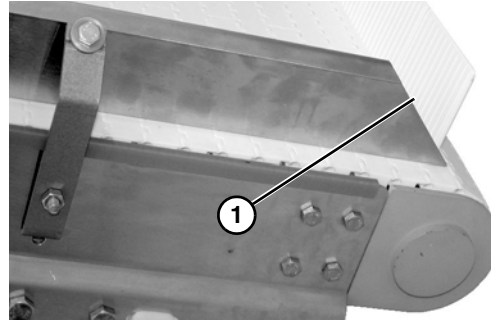

Figure 28
*When installing guides, be sure that the angled end of guide is installed on the idler end of conveyor (**Figure 28, item 1**).*